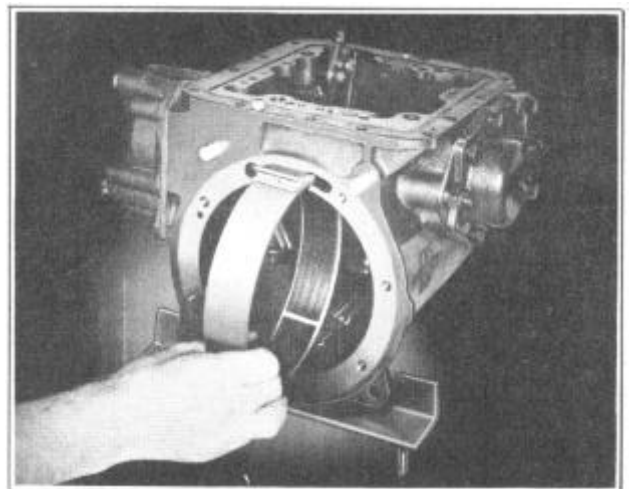

FIGURE 132
6. Slip the end of the band out of the transmission case, Figure 132.